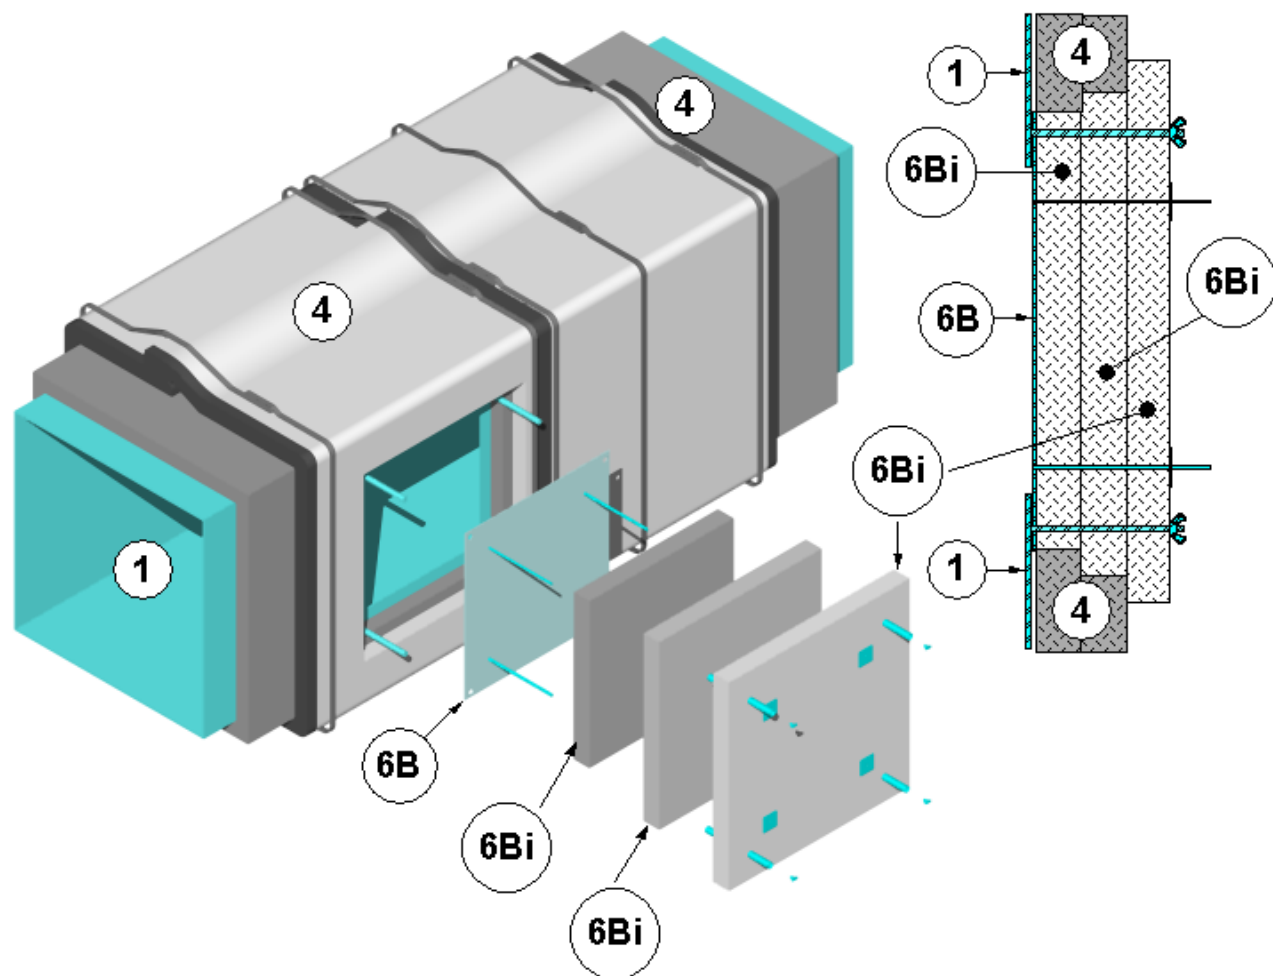

Figure 3 – Field Fabricated Access Door
- B. **OPTIONAL FIELD-FABRICATED ACCESS DOORS:** Refer to Figure 3. Mark a clean-out access opening location on the insulated grease duct (Item 1) at its mid-height along the horizontal section. Cut a 26x20 in. opening in the duct insulation (Item 4). Remove and discard the cut duct insulation (Item 4). Cut and center a 24x18 in. opening into the side of the grease duct (Item 1) by maintaining a 1 in. clearance between the perimeter of the opening and the cut duct insulation (Item 4). Remove and discard the cut steel. Weld four (4), minimum 4 in. long, 1/4 in. diameter, all-thread, steel rods to the grease
ACCESS INSULATION: Refer to Figure 3. Apply three (3) layers of access insulation over the field-fabricated access door (Item 6B) as follows. Cut the first piece of access insulation a minimum 1 in. larger than the clean-out access opening and install it over the duct insulation pins, the four (4), 3/8 in. diameter, all-thread, steel rods, and cover the field-fabricated access door (Item 6B). Press the first piece of access insulation flush over the field-fabricated access door (Item 6B). Compress and abut the cut edges of the first piece of the access insulation against the cut edges of opening in the duct insulation (Item 4). Cut a second piece of access insulation 1 in. larger on all sides than the first piece of access insulation. Square it and install it over the insulation pins and the four (4), 3/8 in. diameter, all-thread, steel rods. Press the second piece of access insulation flush over the first piece of access insulation. Compress and abut the cut edges of the second piece of the access insulation against the cut edges of opening in the duct insulation (Item 4). Cut a third piece of rectangular access insulation a minimum of 2 in. larger than the second piece of access insulation on all sides, creating a "stair-step." Seal cut edges of the third piece of access insulation with nominal 4 in.-wide aluminum foil tape. Position, square, and impale